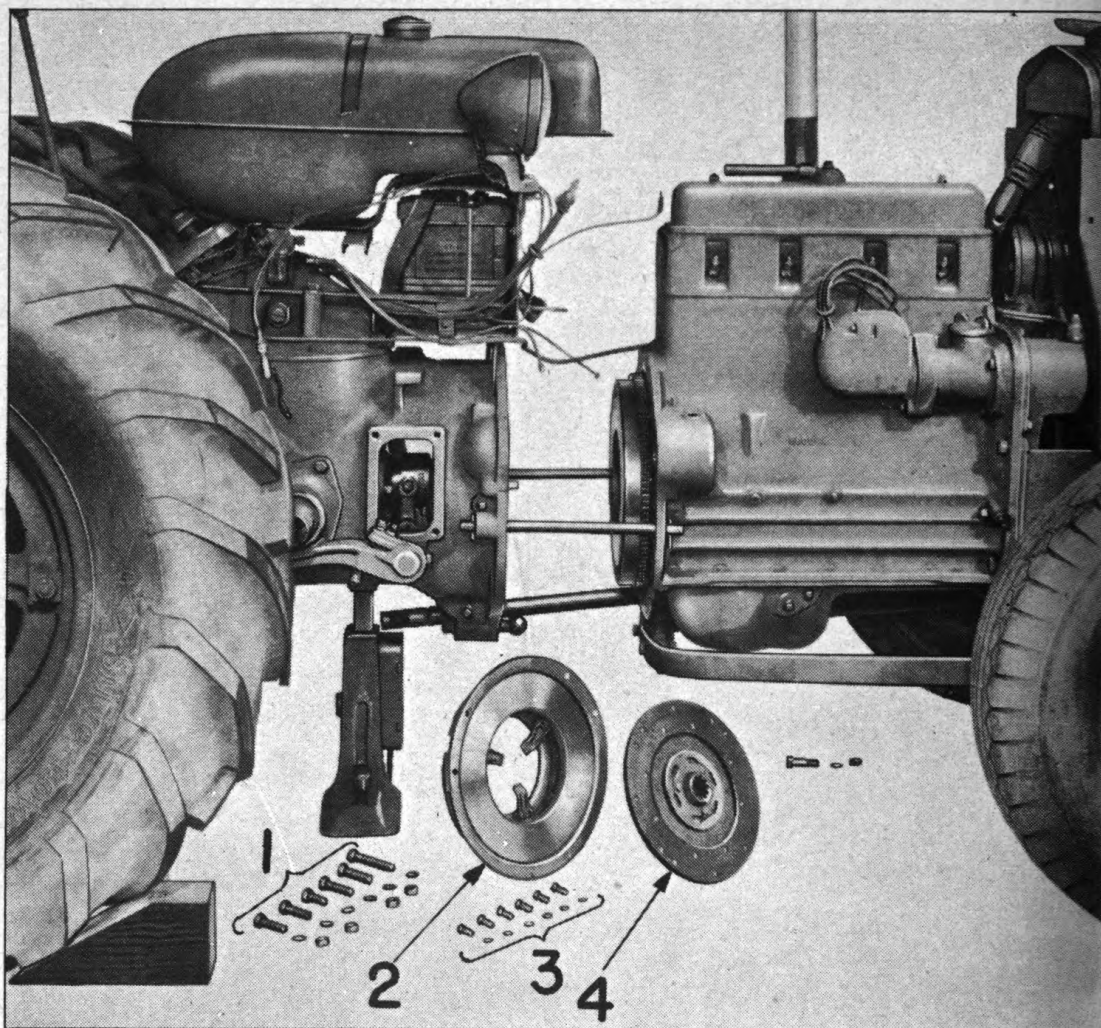

Fig. 72. Tractor Split and Clutch Removed
21. Using bar press down on radius rod and push motor forward approximately $9\frac{1}{2}$ inches. Fig. 72